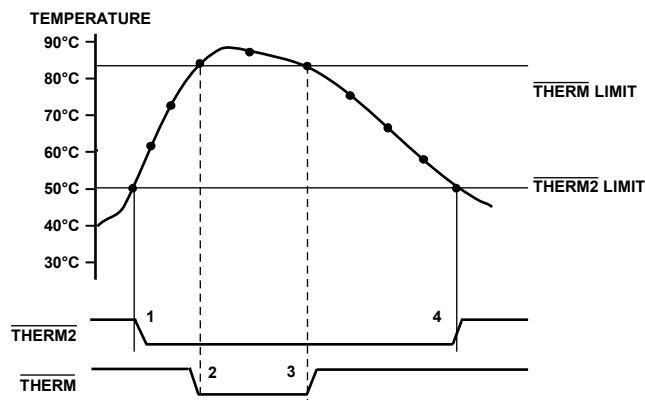

Figure 22. Operation of the THERM and THERM2 Interrupts
Figure 22 shows how $\overline{\text{THERM}}$ and $\overline{\text{THERM2}}$ might operate together to implement two methods of cooling the system. In this example, the $\overline{\text{THERM2}}$ limits are set lower than the $\overline{\text{THERM}}$ limits. The $\overline{\text{THERM2}}$ output could be used to turn on a fan. If the temperature continues to rise and exceeds the $\overline{\text{THERM}}$ limits, the $\overline{\text{THERM}}$ output could provide additional cooling by throttling the CPU.
3. The $\overline{\text{THERM}}$ output de-asserts (goes high) when the temperature falls to $\overline{\text{THERM}}$ limit minus hysteresis. In Figure 22, there is no hysteresis value shown.